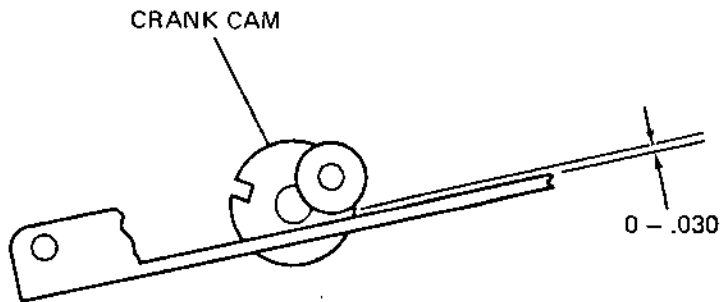

Figure 2-8A. Eject Motor Cam Alignment Check - Carrier Open
- d. Depress eject button on bezel and observe the crank cam rotate to a point where the bearing follower is just clear of impacting the carrier plane, i.e., 0-.030". Once the carrier is open there must be no further contact between the bearing follower and carrier. (Figure 2-8A.)